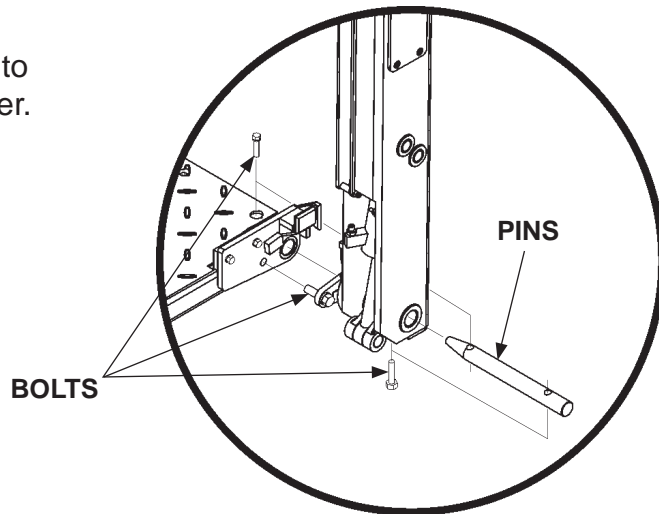

FIG. 34-2
32. Reinstall bolts and pins (**FIG. 34-2**) holding platform and connector bar to RH runner (**FIG. 34-2**) and LH runner.